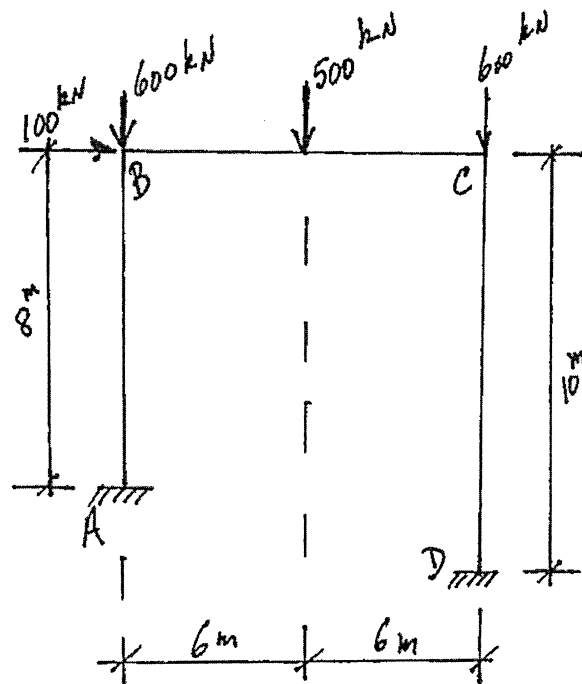

FIGURE 4
5. The reinforced-concrete rigid frame in Figure 4 is to be designed for the loads shown, using the ultimate strength method: